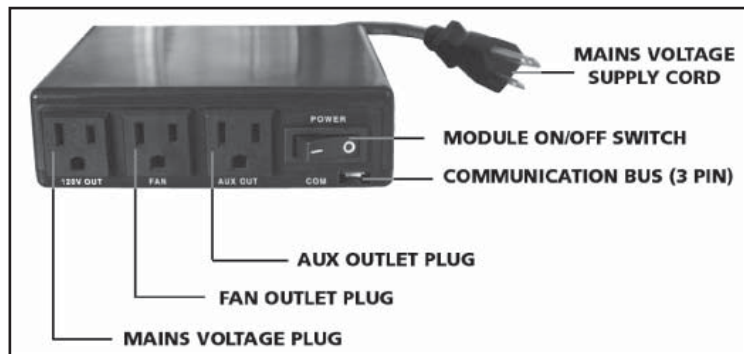

Figure 106: Proflame Fan Control Module.
Fan Control Module (FCM) offers the added ability to control the fan speed through six (6) speeds, a remotely actuated 120V outlet and a constantly powered 120V outlet. The FCM provides DC power to the Receiver allowing the batteries to be used only when line power is interrupted or lost (see Figure 106).
The Smart Thermostat function adjusts the flame height in accordance to the difference between the set point temperature and the actual room temperatures. As the room temperature gets closer to the set point the Smart Function will modulate the flame down. To activate this function, press the Thermostat Key (until the word “SMART” appears to the right of the temperature bulb graphic (Figure 106). To adjust the set temperature, press the Up or Down Arrow Keys until the desired set temperature is displayed on the LCD screen of the Transmitter.